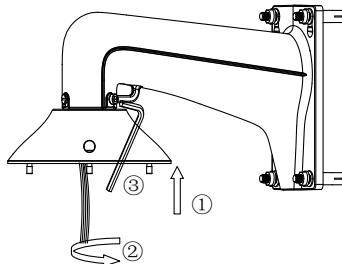

Figure 2-12 Install the Head Cover
- 1) Align the head cover with the bracket, and rotate the head cover clockwise or anticlockwise, then secure the two lock screws with the wrench as shown in Figure 2-12.